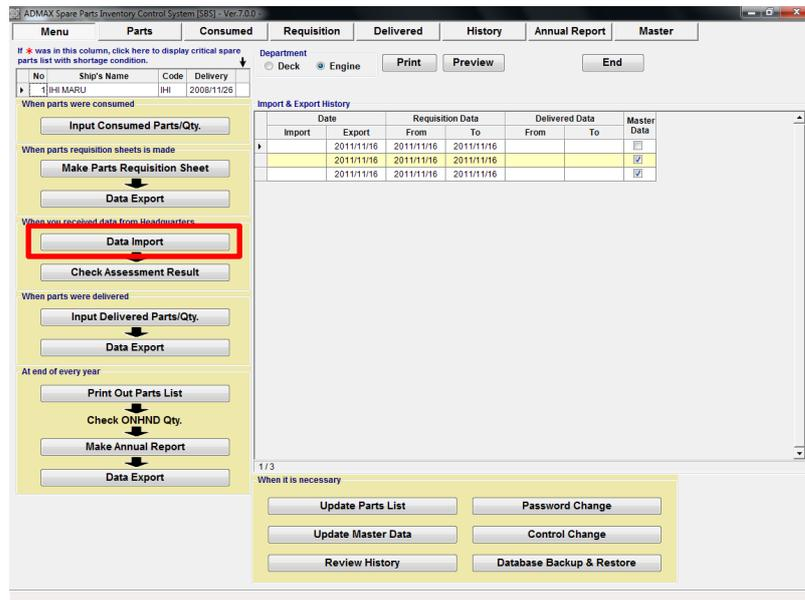

Fig 7.1 Menu
1. On the "Menu Screen"(Fig.7-1), select [Data Import].